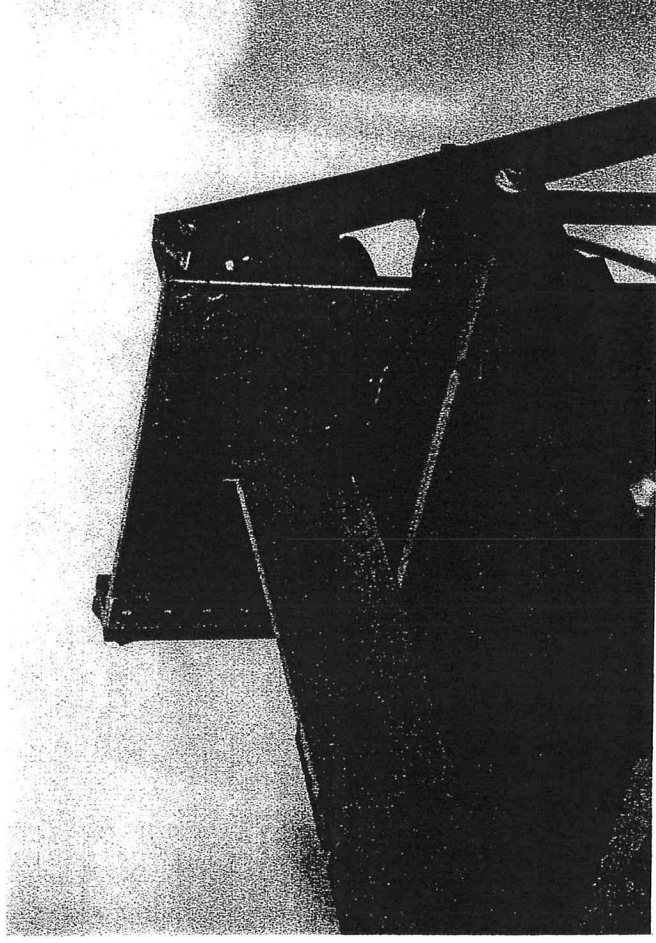

Fig. 28
3. Lower the table 6 turns. Cut end groove in workpiece A. (fig. 28)